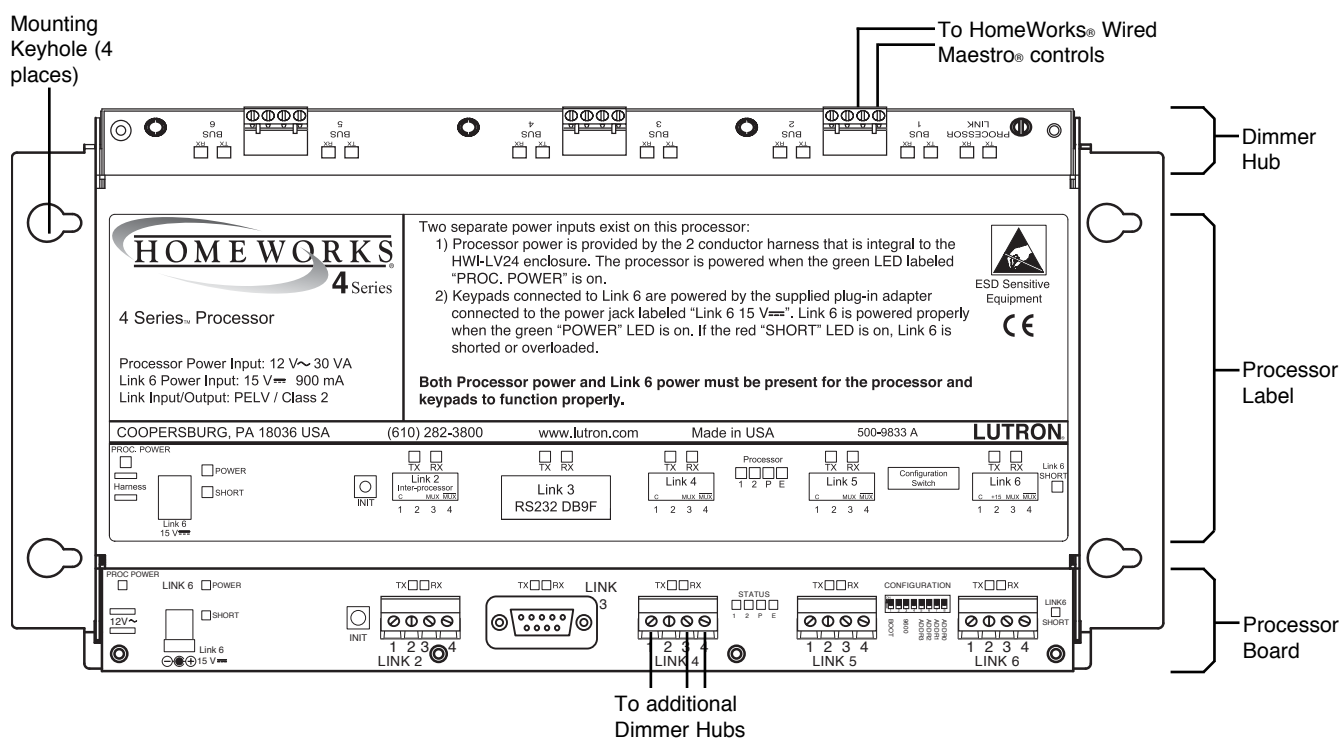

Figure 4 - 4 Series™ Processor
4. **Connect to HomeWorks lighting controls.** Connect the communication wiring from the dimmers to the factory installed Dimmer Hub (see Figure 4, page 3). Connect the buses according to the bus assignments that were made using the HomeWorks Utility. Gray and violet connections are marked on the printed circuit board.